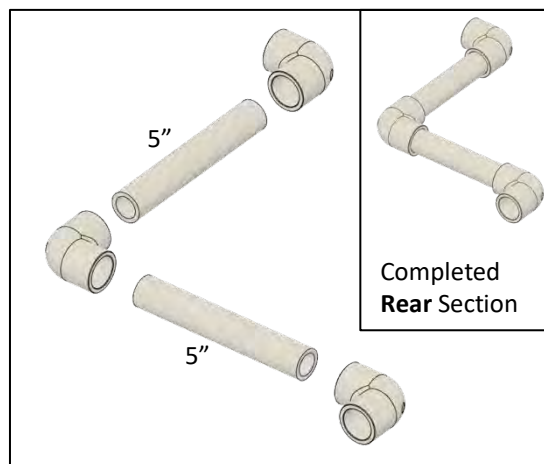

Figure 31
- Assemble the rear frame section. (Figure 31)